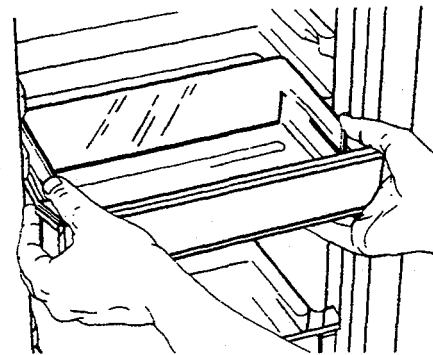

Figure 18
c. Pull bucket straight out. See Figure 18.